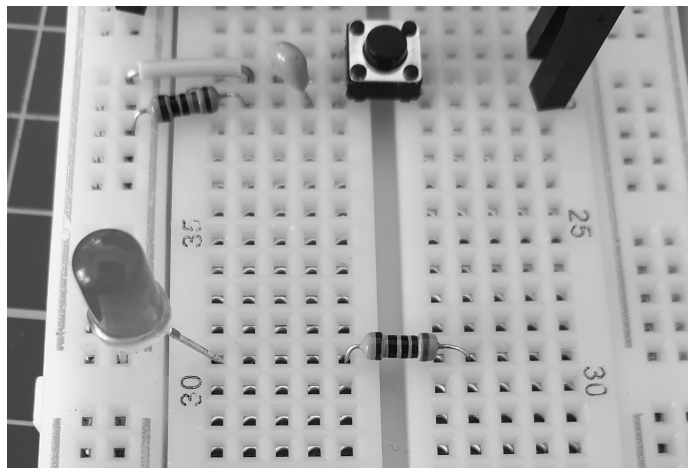

Figure 4-24: Inserting the LED and 560 Ω resistor
5. Insert the LED into the breadboard with the short leg (the cathode) connected to the GND column and the long leg (the anode) in a row to the right. Next, connect the 560 Ω resistor to the right of the LED, as shown in Figure 4-24.